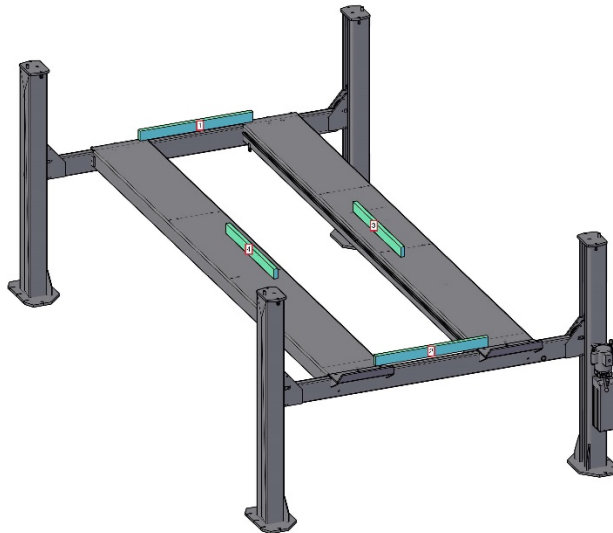
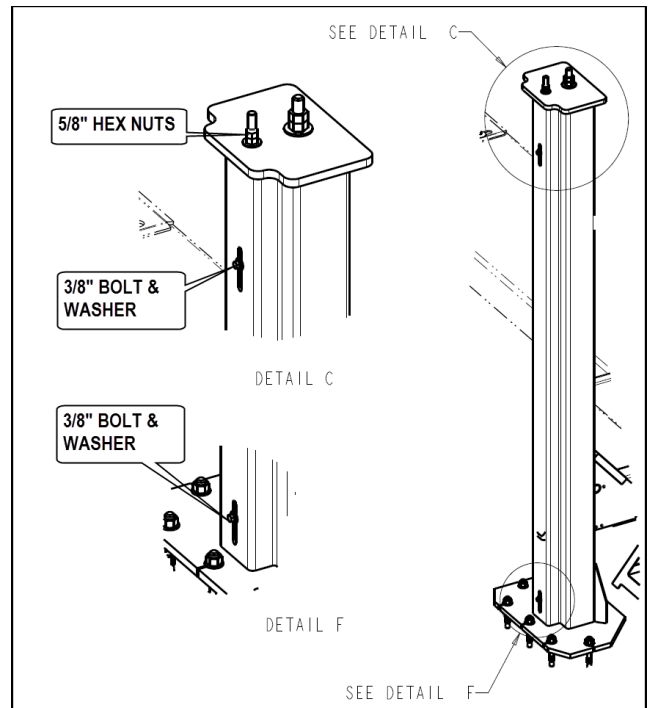

Figure 27. Deck leveling (Lift may not be as shown)
Figure 28. Ladder Leveling
2. Using a self leveling laser (or 4' level), check the level of the decks front to rear and side to side as shown in **Figure 27**.
4. Adjust the cable lengths by tightening or loosening the two (2) 7/8"-14UNF hex nuts attached to each cable at the tower top plate to raise or lower each corner.
3. Loosen the 3/8"-16 UNC × 1" LG. hex bolts at the bottom and top of each safety ladder (on the back side of the tower) and pull the safety ladders up until they come into full contact with each safety shoe on the crossmember assemblies. See **Figure 28**.
4. When flush with the safety shoe, tighten the two (2) 5/8"-11 UNC hex nuts at the top of each safety ladder and the 3/8"-16 UNC × 1" LG hex bolts at the bottom and top of each safety ladder (on the back side of the tower).
5. Lower the lift onto the mechanical safety locks and verify level as shown in **Figure 27**. Make adjustments to safety ladder as necessary.